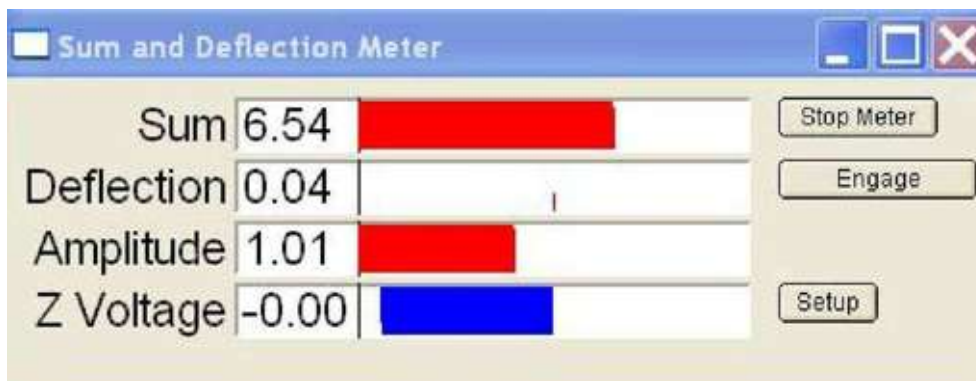

Figure 6.7 Sum and Deflection Window*
8. In the Sum and Deflection window, click 'Simple Engage' (See Figure 6.7 on page 133).
Begin your engage process by clicking the ‘Simple Engage’ button located in the ‘Sum and Deflection Meter’ panel, to turn on the feedback loop (Figure 6.7 on page 133) You should see the red bar graph at its maximum value of 150V as the Z feedback loop attempts to match the chosen set point by extending the Z-piezo voltage towards the surface. In other words, turning on the feedback loop tells the MFP-3D™ controller to use the Z-piezo to decrease the amplitude to reach the set point. At first, since the head is far above the surface, the piezo does its best by extending completely to its maximum value of 150 Volts. There should be little or no effect on the amplitude.